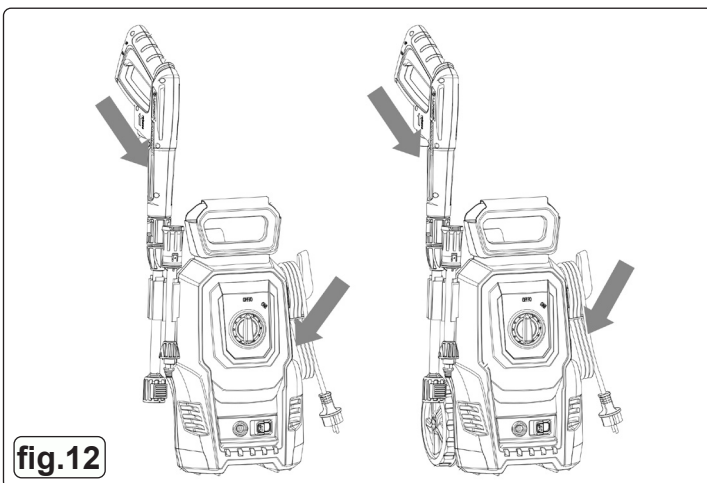

fig.12
6.7. PLACEMENT OF ACCESSORIES ON THE MACHINE (FIG.12)